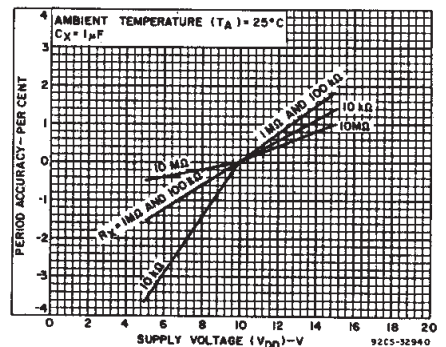

Fig. 11—Typical astable oscillator or Q, Q̄ period accuracy vs. supply voltage.
B. Variations Due to V_{DD} and Temperature Changes — In addition to variations from unit to unit, the astable period varies with V_{DD} and temperature. Typical variations are presented in graphical form in Figs. 11 to 18 with 10V as reference for voltage variations curves and 25°C as reference for temperature variations curves.